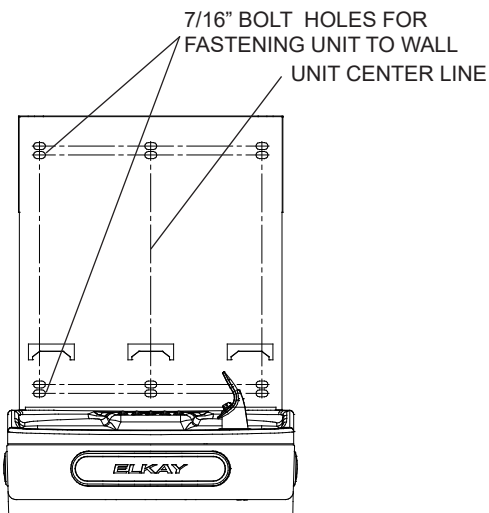

Fig. 8
- 2) **Remove wall mounting plate from Bottle Filler.** Place wall plate against wall on top of basin. Center the wall plate side to side with the basin. Mark the six (6) mounting holes with a pencil (See Fig. 8).
- 4) **Install wall mounting plate** to wall using six (6) 7/16" obround mounting holes (mounting bolts not included) (See Fig. 8). Use appropriate fasteners for your wall type.